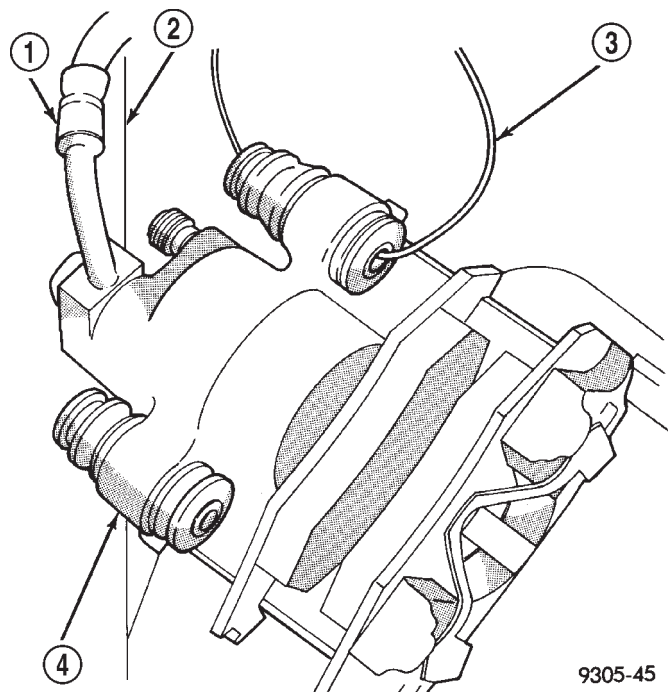

Fig. 92 Storing Caliper
(5) Support the caliper from the rear strut to prevent weight of caliper from damaging the flexible brake hose (Fig. 92).